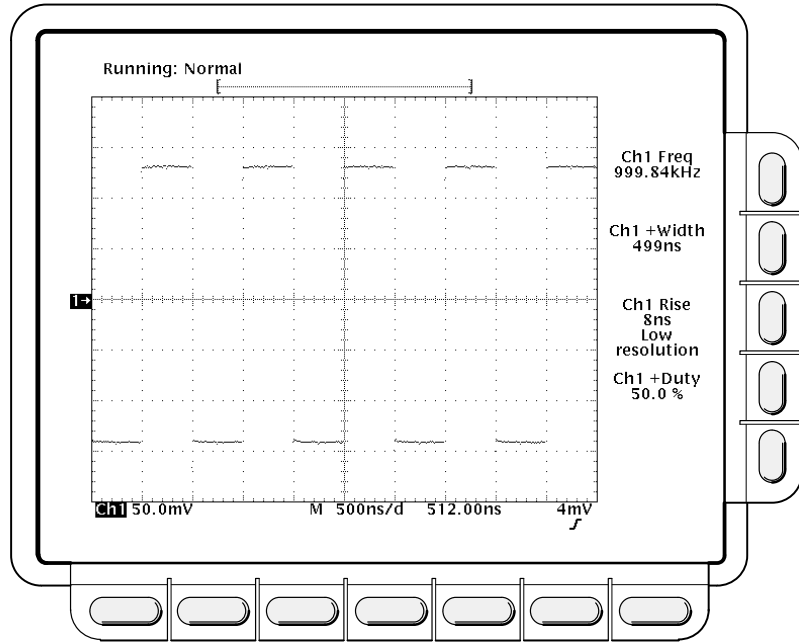

Figure 1-17: Four Simultaneous Measurement Readouts
5. To move the measurement readouts outside the graticule, press **CLEAR MENU** (Figure 1-17).